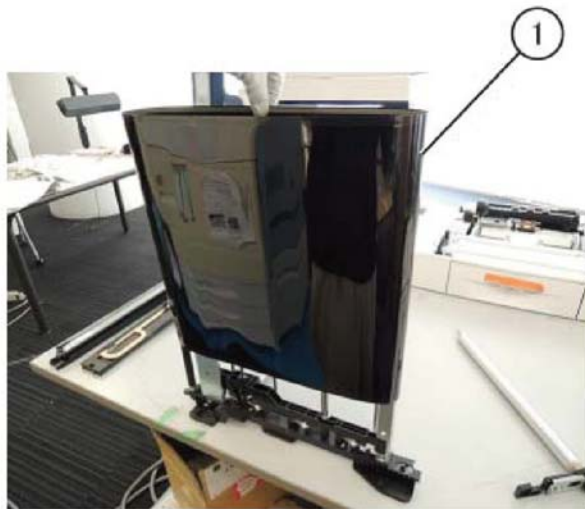

Figure 12 IBT belt unit replacement
14. Remove the IBT belt, Figure 12.